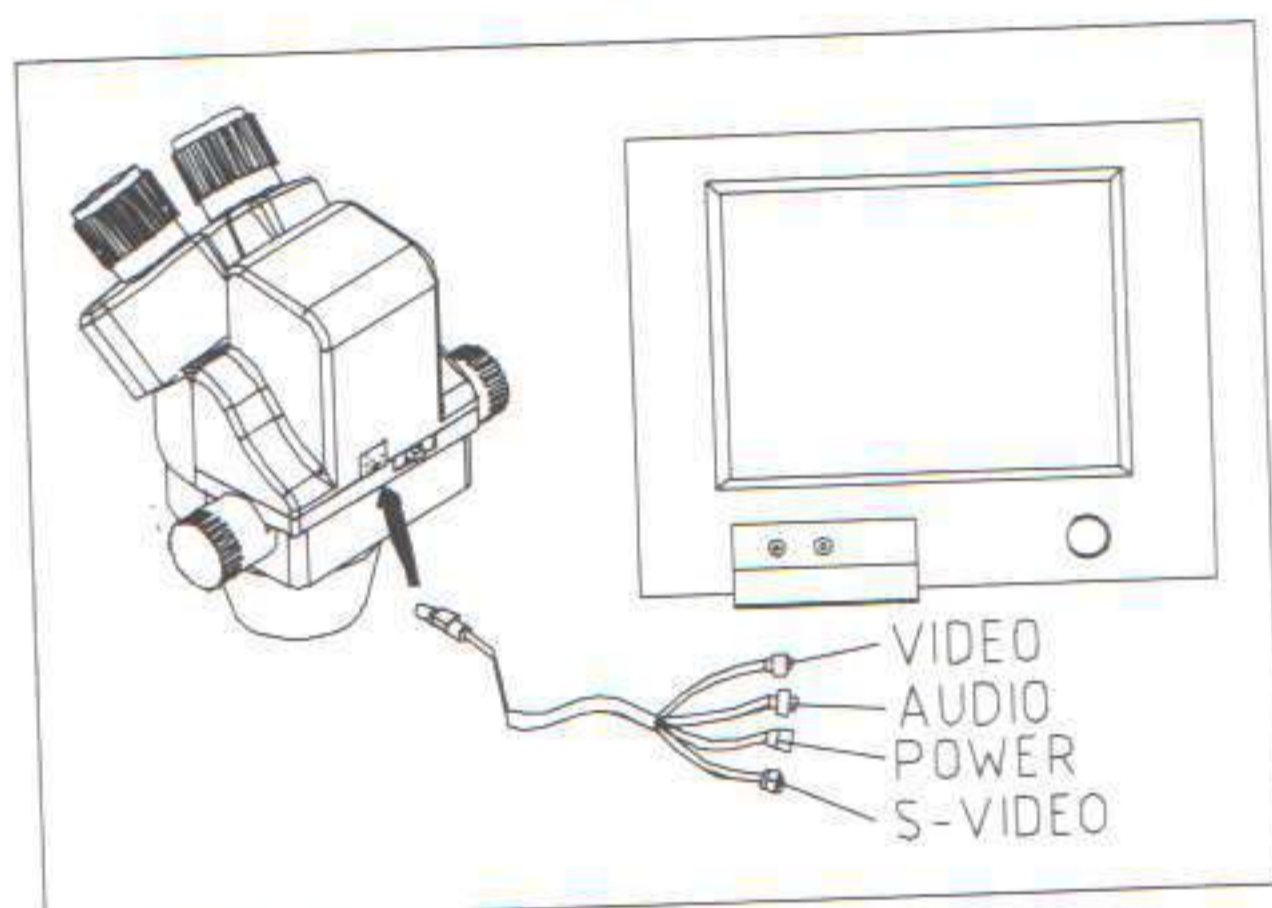

Fig.10
- 1) Plug one end of the PVA cable into the socket of the digital head. (Fig.10)